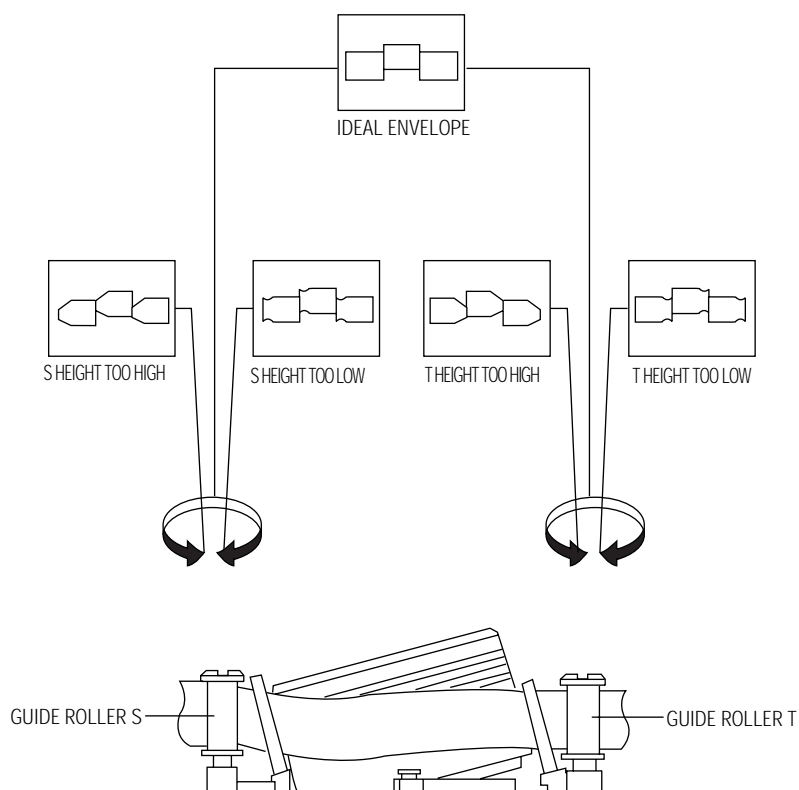

Fig. 6-11 Guide Roller S, T Height Adjustment
- 8) Turn the guide roller heads with a flat head (■) driver to obtain a flat video RF envelope as shown in Fig. 6-11.